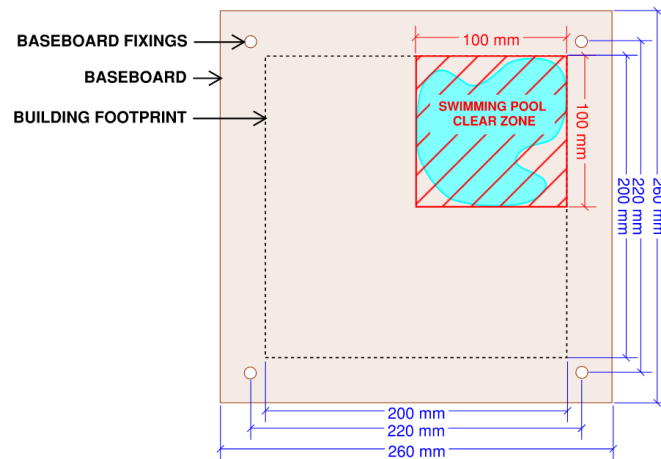

Figure 2: Definition of building footprint and base board
- Models must be constructed on a solid timber base board (260 mm × 260 mm × 5.5 mm MDF). A 30 mm clearance around the edges of the base board must be kept in order to fix the model onto the shaking table – please do not add any non-structural decorations outside the “building footprint” zone shown in Figure 2 below. **Teams violating this rule will be disqualified or there will be the addition of penalty weights to the models.**
- The allowable site area is the 200 mm × 200 mm square shown as the dotted lines in Figure 2. The projection of the entire model onto the base board must be within 200 mm × 200 mm. Additionally, no columns or other structural elements may connect to the baseboard within the 100 mm x 100 mm clear zone shown in Figure 2 below.
- Teams need to drill through-holes in the model base to accommodate M6 bolts, such that the model can be fixed to the model mounting board on the day of the competition. Bolt holes are to be 220 mm centres apart. Refer Figure 2 for clarity.